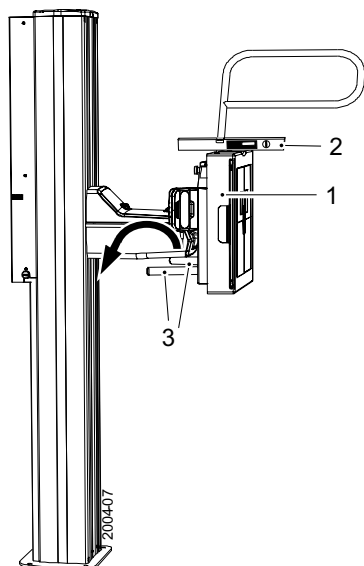

Fig. 6-19 Wallstand
1. Put the detector holder (1) on the wallstand in a vertical position as show in **Fig. 6-19**
2. Note the angle, using the display or with a digital spirit level (2).
3. Grasp and apply a light load to the patient hand grips (3) and lift/angle the detector holder counterclockwise in the direction of the arrow in **Fig. 6-19**.
10. Unscrew the ten M6 screws and remove the detector holder (1) from the gear (7). Run the gear manually 144°, which corresponds to two screw holes.
11. Remount the detector holder and the housings in the reverse order. Fasten the screws in step 10. with torque 10 Nm. When remounting the upper housing, position the plastic spring (8) below the edge (9).
13. Grasp and apply a light load to the patient hand grips (3) to lift/angle the detector holder in the direction of the arrow in **Fig. 6-19**.